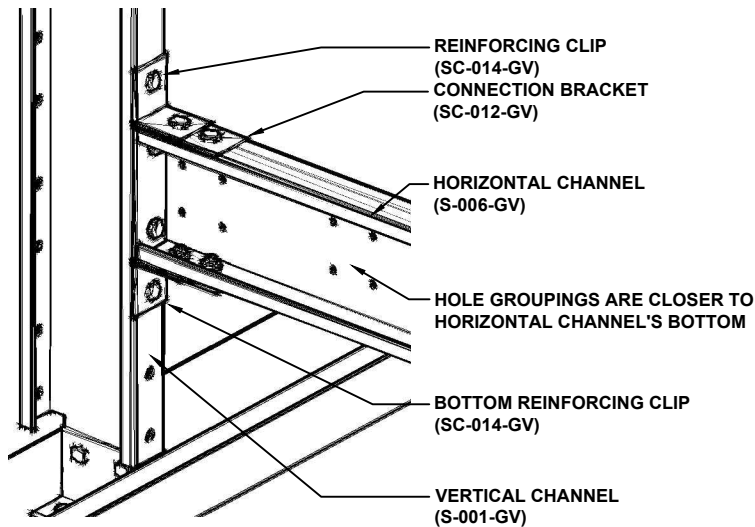

FIGURE 8 - EXTERIOR SUPPORT
- b. Horizontal Channel (S-006-GV) - **The bottom of the Horizontal Channel is identified by the $\frac{1}{4}$ " holes in the face of the member. These holes are closer to the bottom than the top.** The open part of the "C" should face to the center of the canopy as shown on the cover of the instructions. Level and bolt the Horizontal Channel to the Connection Bracket and Reinforcing Clip as shown in **Figure 8** using $\frac{3}{8}$ " bolt/nuts.